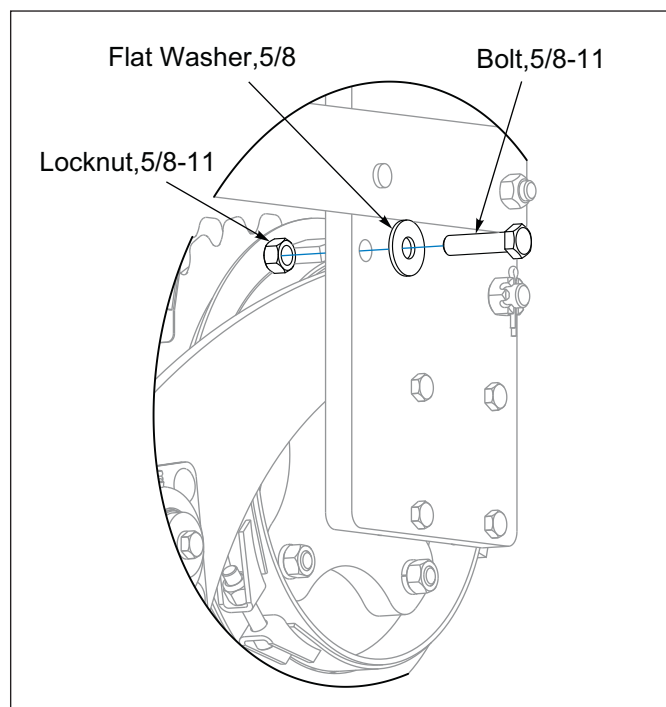

Figure 2-3: Shipping Bolt
6. On the right side of the Seeder Frame, in a similar position as the Parking Pin, remove the 5/8-11 Shipping Bolt that also locks the Rear Roller down. **See Figure 2-3.**